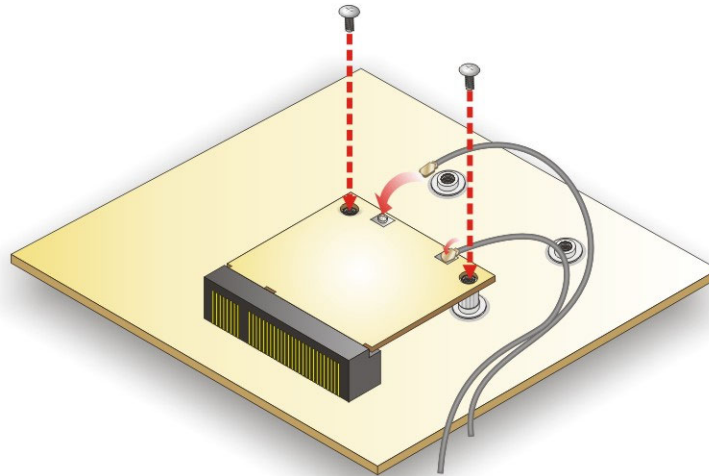

Figure 3-21: Securing WLAN Module and Connecting RF Cables
Step 7: Secure the WLAN module with the retention screws previously removed (**Figure 3-21**).
Step 8: Connect the two RF cables to the antenna connectors on the WLAN module (**Figure 3-21**).